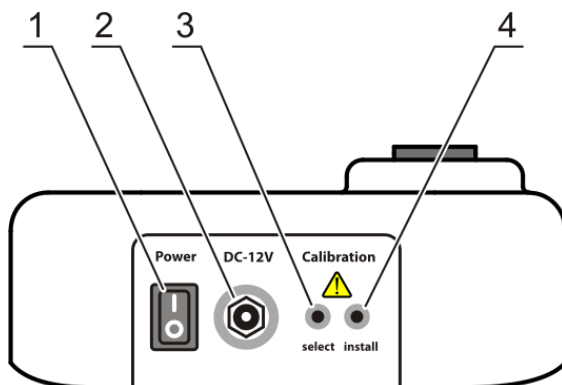

Figure 3. Back view
- Connect the external power supply unit into the socket at the rear side of the unit (fig. 3/2) and position the unit for an easy access to the external power supply and the power switch.
- 5.2. Connect the external power supply to electric circuit. Switch on the unit using the **Power** switch (fig. 3/1) on the rear panel.
- 6.4. Connect the external power supply to electric circuit. Switch on the unit using the **Power** switch (fig. 3/1) on the rear panel.
- 6.5. Press the **Select** button (fig. 3/3) on the rear of the unit.
- 6.6.1. **Empty socket.** Display shows $\bar{\cdot}\bar{\cdot}$ indication. Press **Install** button (fig. 3/4) to save empty socket value. Display shows next required calibration value.